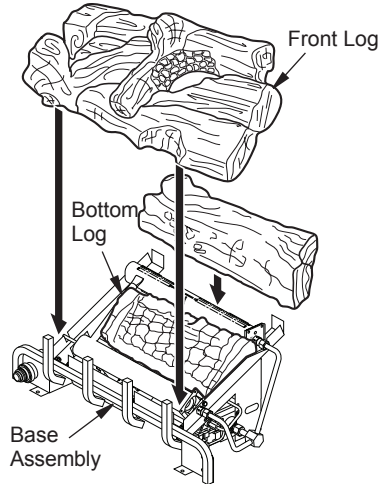

Figure 27 - Installing HRB Model Log Sets
1. Place bottom log in center of the base assembly as shown in Figure 27.
2. Rest rear log in back corner sections of base assembly as shown in Figure 27. Make sure log is completely vertical and not leaning in toward burner where the flame will touch the log.
3. Position front log as shown in Figure 27, making sure the grooves in the bottom of the log fit over the grate prongs.